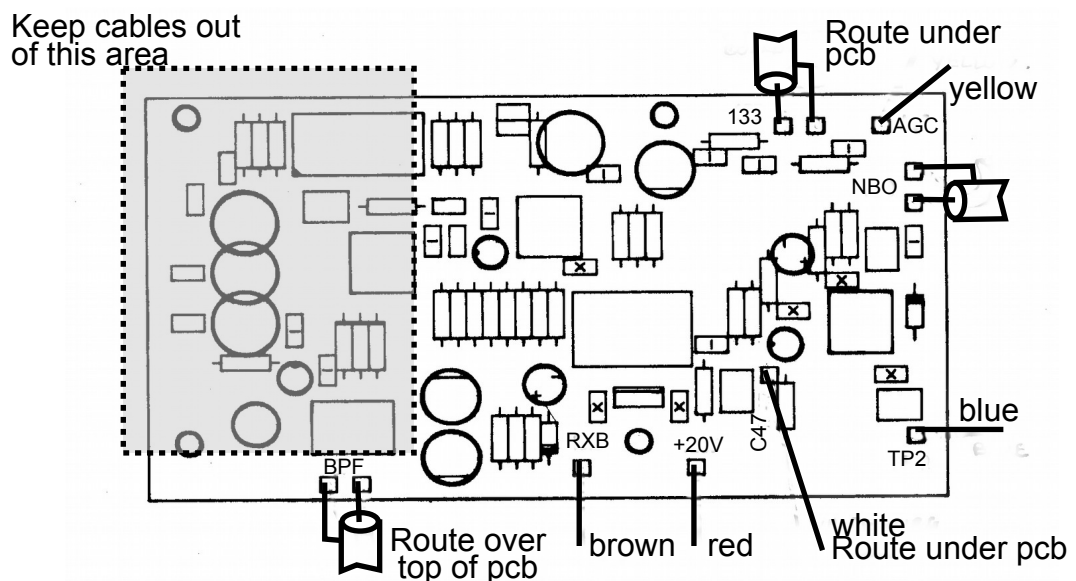

Figure 5: RPCB700 Cable Connections
13. Solder the Brown wire to the RXB pin on the original pcb, and to the RXB input on the new board (Fig.5.). Again do not disturb the original wiring.
17. Check all of the connections and route the Receive input cable as shown in Fig.5.. This will keep it clear of the output from the RF amplifier on the PCB.